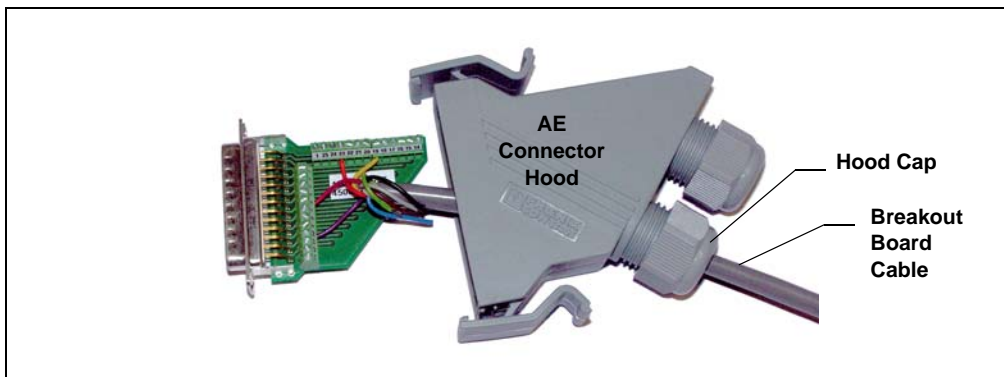

Figure C-13. Installing the Breakout Board in the AE Connector Hood
- c. Continue threading the cable through one of the hood caps on the top of the hood (see Figure C-13).